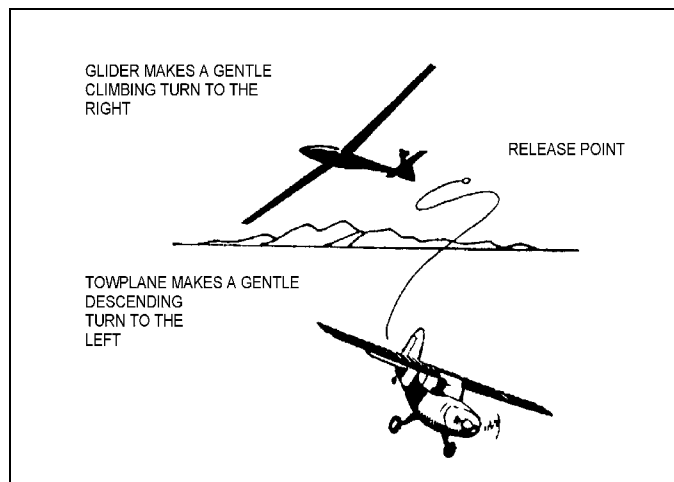

Figure 2-8-1 Separation Procedure
- b. At release, the glider pilot shall pull the release knob, hold it open momentarily (approximately 1 to 2 seconds), repeat the procedure, visually confirm separation from the tow rope, and then execute a gentle climbing turn to the right (Figure 2-8-1).